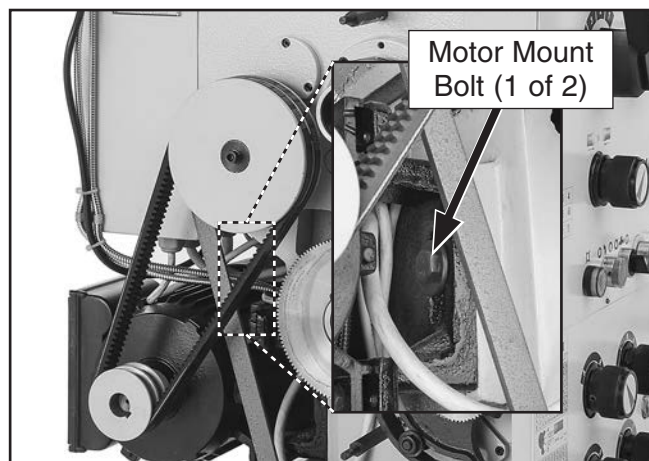

Figure 129. Checking V-belt deflection.
3. Loosen motor mount bolts (see **Figure 129**).
3. Loosen motor mount bolts (see **Figure 129**), slide motor up, and remove V-belts.